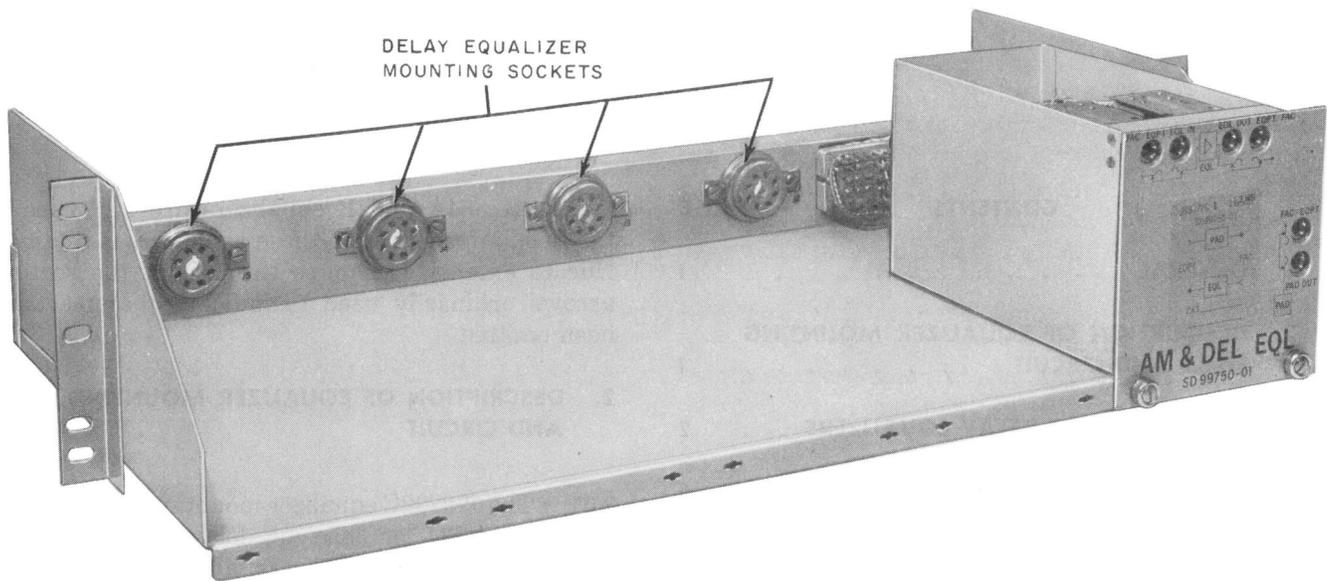

Fig. 1—Equalizer Mounting Shelf With Four Open Positions
**2.01** The J99292C equalizer mounting shelf accepts four 384- or 385-type delay equalizers, two 359-type amplitude equalizers, a 227-type amplifier, an optional 1C pad, and 89-type resistors as required (Fig. 1, 2, and 3). All of these items are equipped to plug into the mounting shelf, which also provides access jacks. The sockets for the equalizers are wired in series; therefore, if a full complement of equalizers is not required, dummy plugs must be used to complete the circuit. The dummy plug for the 384- and 385-type equalizers is the 433A plug; the dummy plug for the 359G equalizer is the 359E; the dummy plug for the 359H equalizer is the 359C.